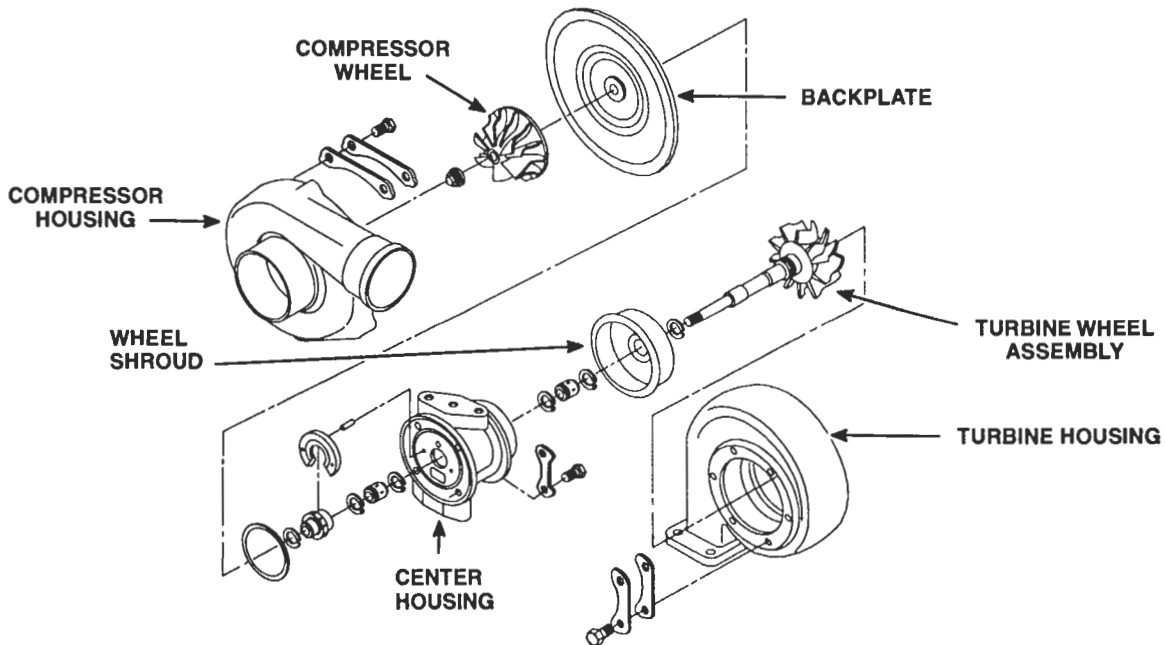

Figure 10. T04B Turbocharger Components
1. Bend the lock tabs (Figure 10.) of the lock plates down and remove the bolts which hold the lockplates and clamps securing the compressor housing and turbine housing.